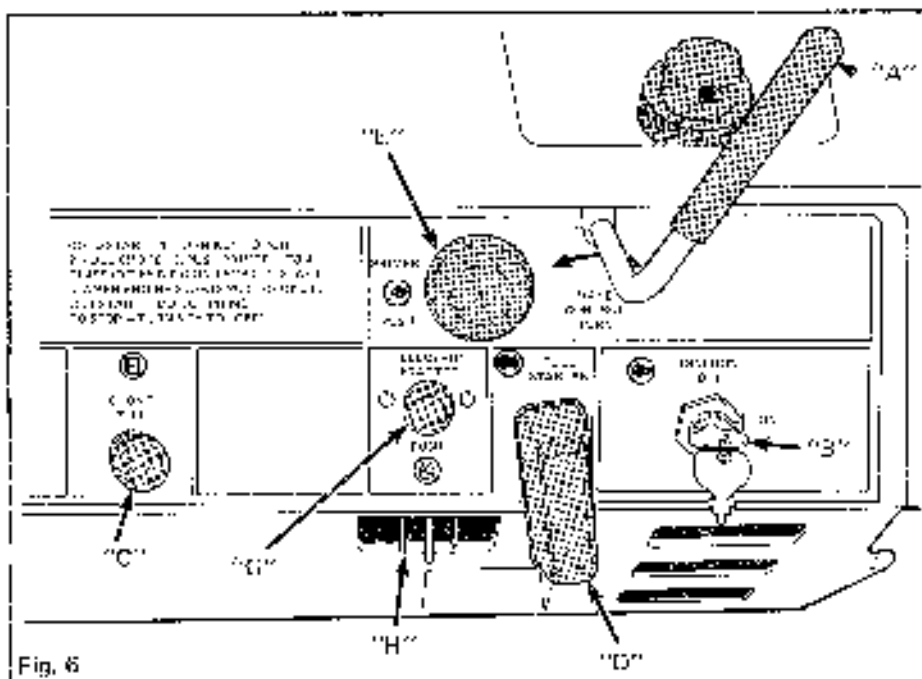

Fig. 6
The vane control (A), Figure 6, is used to direct snow discharge left, right or straight ahead.
The ignition key (H), Figure 6, allows the starting and stopping of engine.
The choke control (C), Figure 6, aids in cold engine starting.
This starter rope (D), Figure 6, allows the engine to start (by pulling) with the key ON.
The primer button (L), Figure 6, permits the operator to hand prime (by pressing) the engine carburetor. NOTE: When priming (Models 225 & 225E only) be sure your thumb is covering vent hole.
This starter button (G), Figure 6, is used to start the engine (by pressing) with the ignition key ON.